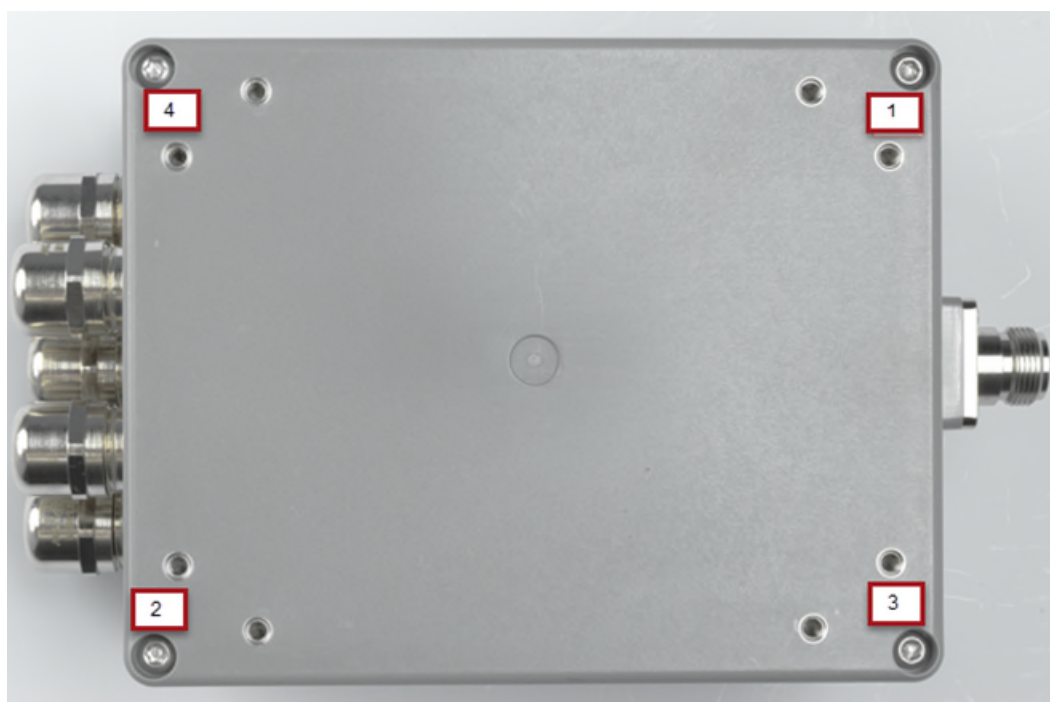

Figure 5: Front Cover Tightening Sequence
7. Screw the front cover back on the data logger following the tightening sequence shown in Figure 5. Make sure the rubber seal on the cover is free of debris and seated in its groove before tightening the screws.
3. Screw the front lid back on the data logger following the tightening sequence shown in Figure 5.